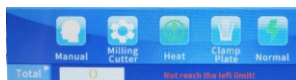

Figure 4
- 6.2.3. The "Cover Clamp" button turns green, which means that the cover clamp is working, otherwise it does not work. As shown in Figure 4